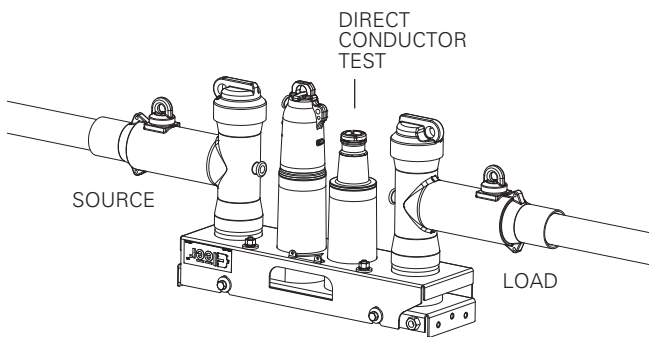

Figure 10. Verify circuit is de-energized
- Using an appropriate voltage sensing meter, test through the load side 600 A loadbreak bushing interface to verify circuit is de-energized. See **Figure 10**.